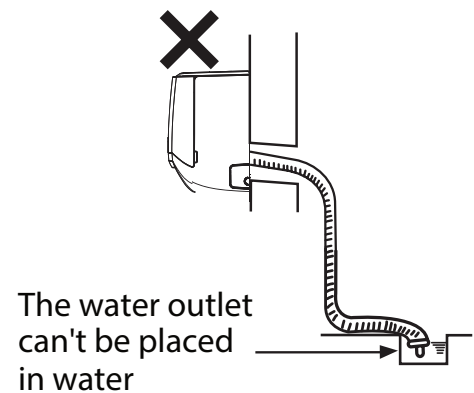

Fig.27
3. The water outlet can't be placed in water in order to drain smoothly.(As show in Fig.27)